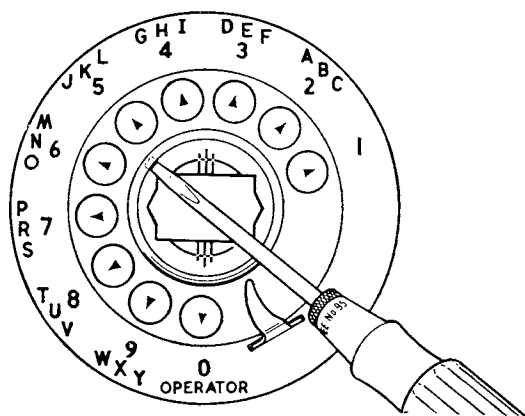
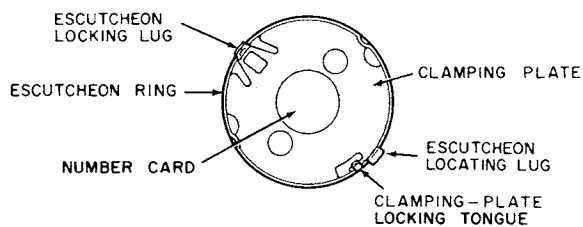

Figure 28. Use of screwdriver on escutcheon ring.
Figure 29. Escutcheon ring with number card.
6.2 To remove the escutcheon ring of a dial with plastic finger plate, proceed as follows. At a point halfway between finger holes 5 and 6 (figure 28), insert a screwdriver between the edge of the escutcheon ring and the transparent cover to unlatch the escutcheon ring. Lift the ring with the screwdriver. Rotate the clamping plate (as shown in figure 29) counterclockwise and remove the number card. Print or stamp the desired number or other information clearly on the card.
Next, with the transparent cover in the escutcheon ring, add the number card and the clamping plate. Press lightly with the left thumb near one circular hole, say the lower left one in figure 29 and lock the clamping plate by inserting the right thumbnail in the other circular hole and turning the clamping plate clockwise. Then hook the escutcheon locating lug into the dial near the finger stop.